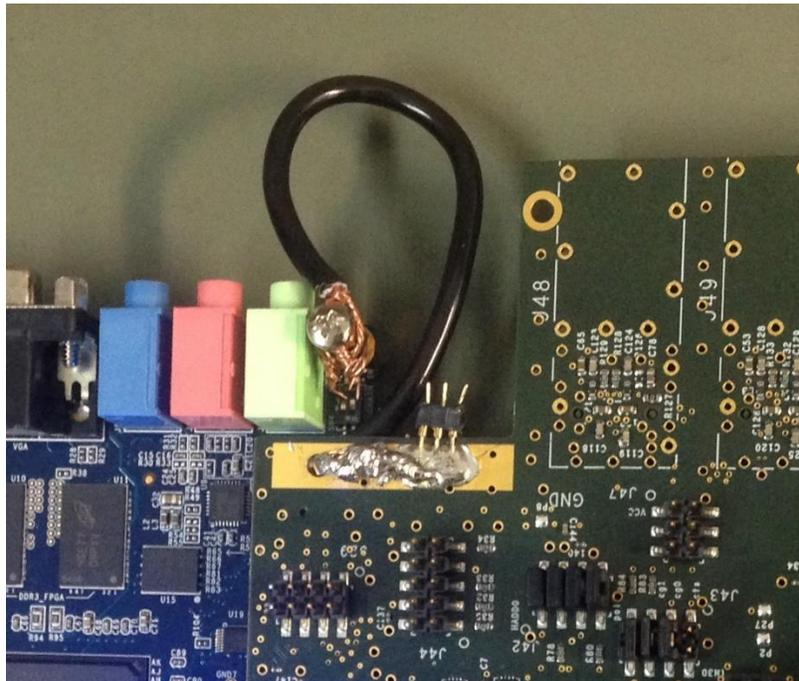

Figure 5: PCCA ground connection
- Is very importante to connect a ground between the board and FPGA, as shown on figure 5:
The charge injection could be independently performed for each channel i.e one CJ capacitor is necessary for each front-end channel, or is possible to apply to all 32 channels by a different injection board. The charge injection is performed using a floating capacitor (CJ) where one terminal is connected to a voltage step (Δ Voltage) from a pulse generator and the other terminal is connected to the front-end input as shown in Figure 5.